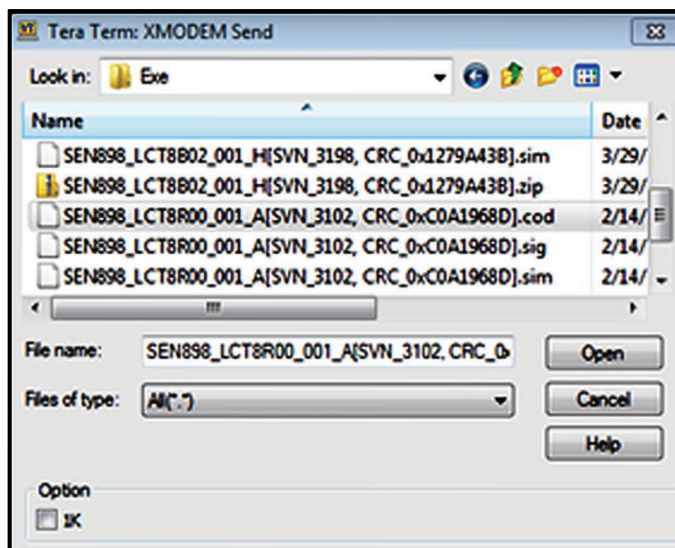
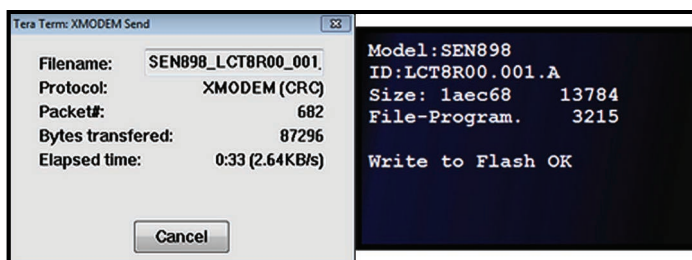

Figure 79: XMODEM send file selector
Figure 80: XMODEM Send status (left) and meter display file receive status (right)
6. When the Tera Term: XMODEM send file selector window opens (see Figure 79 on page 93), locate and select the .cod extension file from your PC. After selecting the .cod extension file, click open and the status window shown on the left in Figure 80 on page 93 opens. At this time, the meter display shows the file receive status (see the right of Figure 80 on page 93).